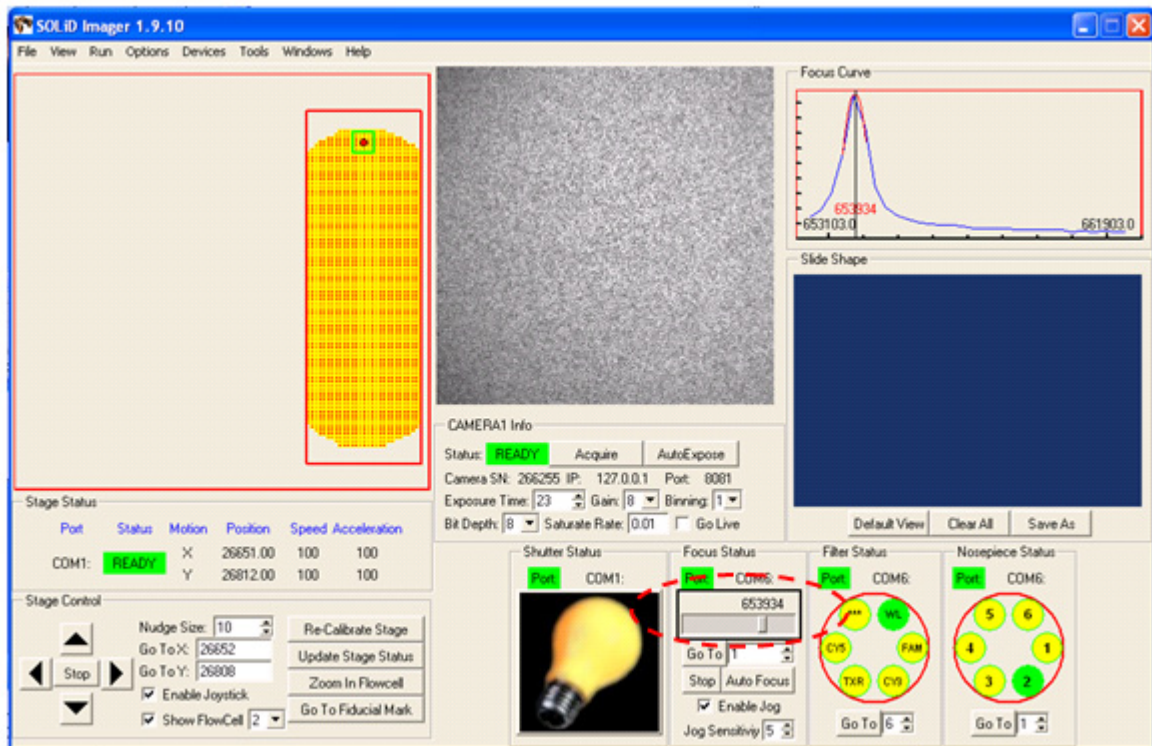

Figure 82 Use the black box to change the focal distance.
6. Click the focus slider bar in the Imager window. A black box appears (see Figure 82 on page 108).